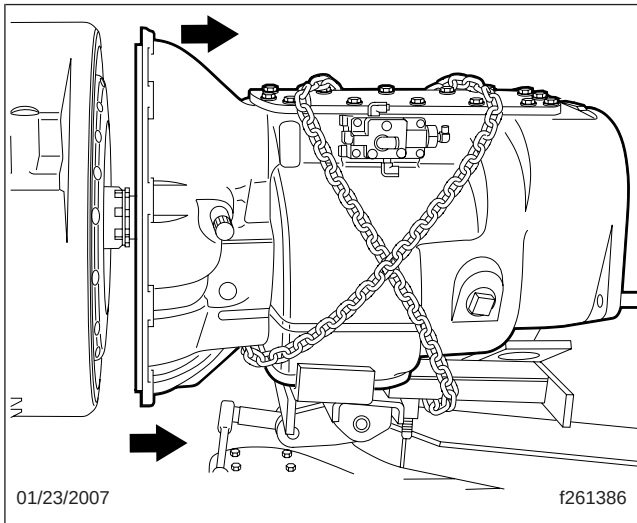

Fig. 2, Transmission Removal
17. Pull the transmission and jack straight back, until the transmission input shaft is clear of the clutch and the engine flywheel housing. Lower the transmission. See Fig. 2.